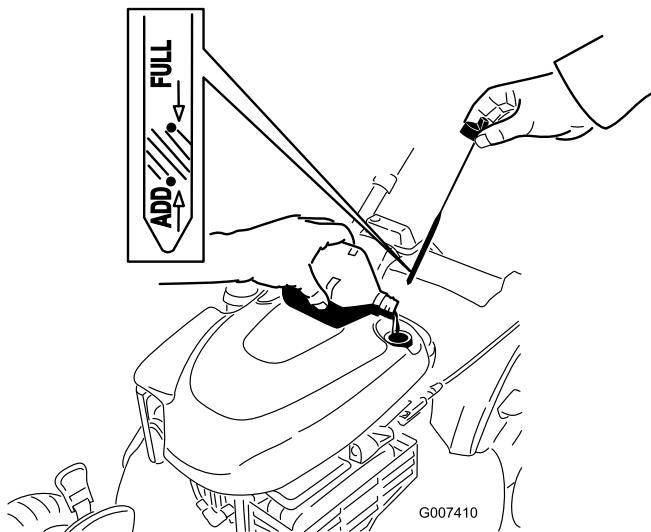

Figure 44
4. Slowly pour oil into the oil fill tube until the oil level reaches the **Full** line on the dipstick (Figure 44).